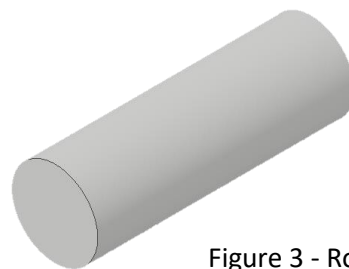

Figure 3 - Round Peg
- Save as **ROUND PEG** (.ipt). See Figure 3.